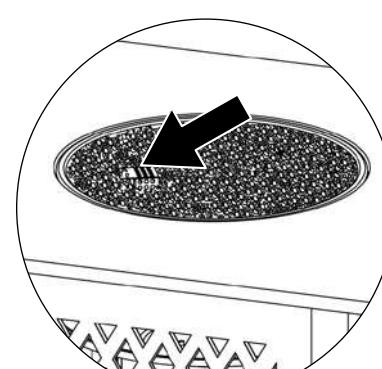

Figure 4
4. Clear small area of glass rocks away from the igniter cover (Figure 4).
- a. Wearing heat-resistant gloves, position a lit long match or lit long butane lighter near the pilot housing (Figure 4).